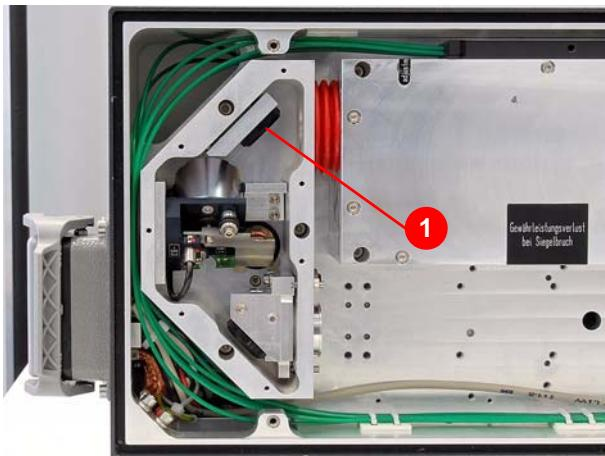

Figure 4.36 Removing the upper deflecting mirror
4. Unscrew the deflecting mirror (1) (Figure 4.36) and lay it on a clean foundation.
4. Unscrew the upper deflecting mirror (1) (Figure 4.36) and lay it on a clean surface.